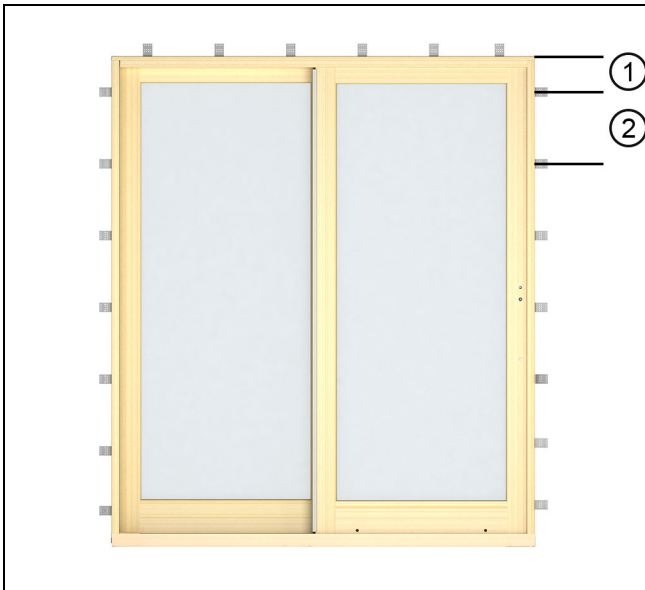

Figure 26
1. Attach structural brackets and structural mull brackets to the jambs and head jambs following the attachment method and spacing specified with the bracket instructions. See Figure 26.